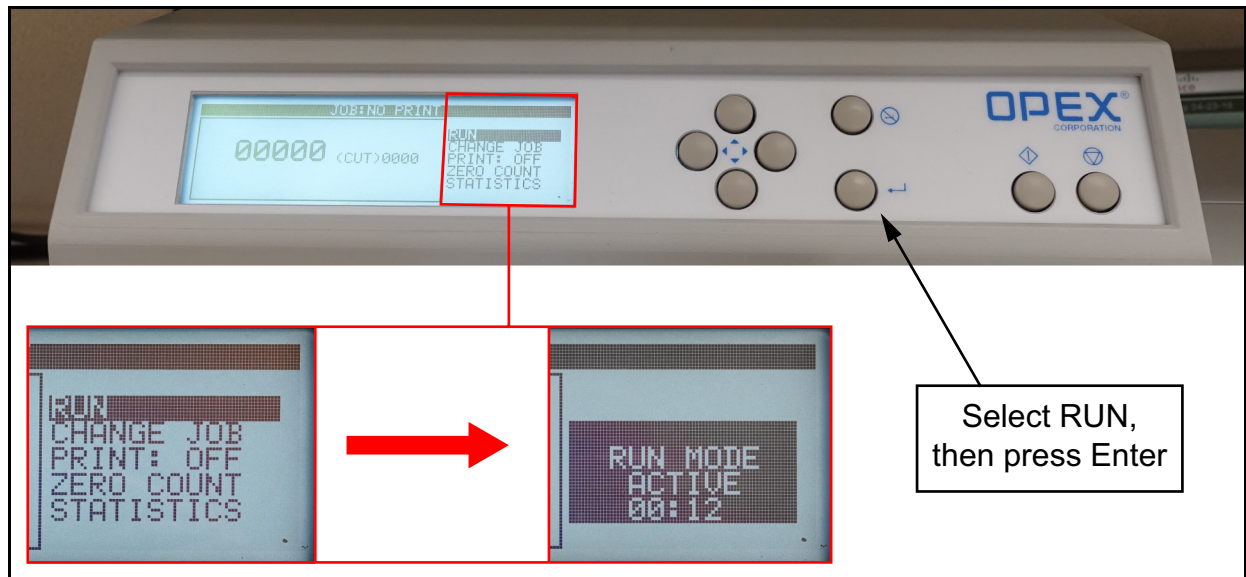

Figure 3-12: Starting the Series 410
9. Once ready to begin, use the arrow buttons to highlight **Run**, and then press **Enter** to start the Series 410 (Figure 3-12). The screen will display “RUN MODE ACTIVE” and elapsed run time.